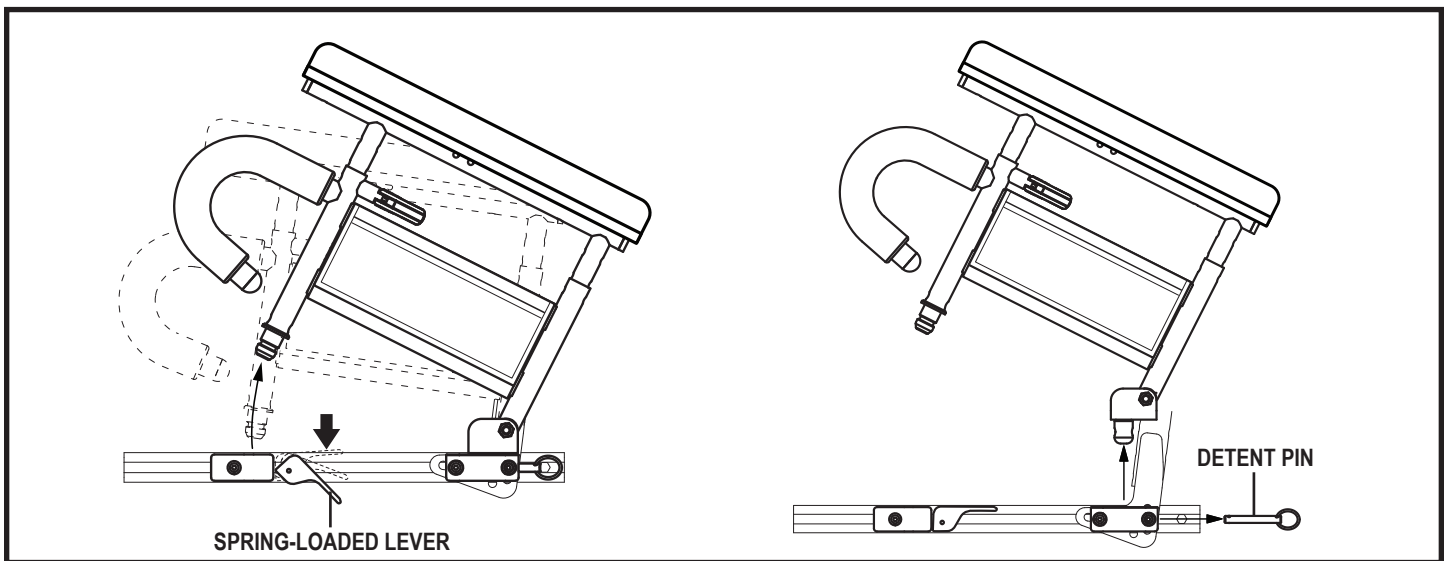

Figure 29. Two Post Height Adjustable Flip-Up Armrest Removal and Installation
The height adjustment range for the Two Post Height Adjustable Flip-Up Armrest is 4 in. (10.16 cm) in 1-in. (2.54-cm) increments. The total height adjustment range is 10–14 in. (25.4–35.56 cm). This range is measured from the top of the seat rail to the top of the arm pad. You can also flip the armrests up or remove them for transfer. **See figure 29.**
1. Push the spring-loaded lever downward and pull up on the front of the armrest. **See figure 29.**
2. Remove the detent pin from the back of the seat. **See figure 29.**
1. Set the rear of the armrest into the rear seat receiver and install the detent pin. **See figure 29.**